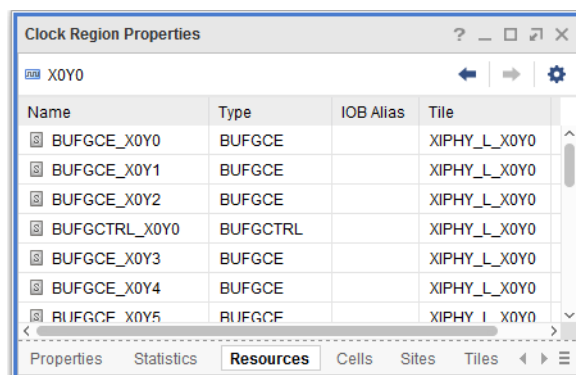

Figure 3-4: Clock Region Properties—Resources View
- Select the **Resources** view to locate device clock resources for logic assignment, as shown in Figure 3-4.